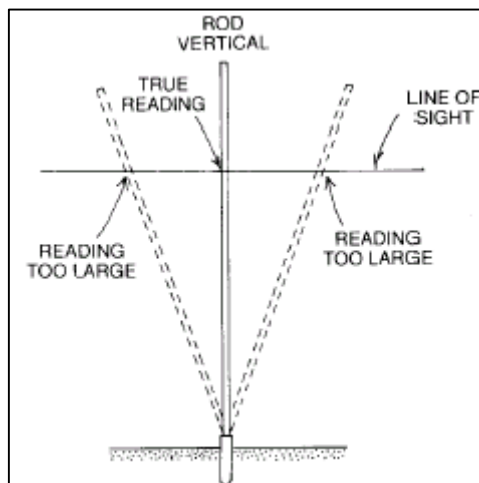

Figure 14 – Leaning the rod results in incorrect readings
- Note:** It is very important that the rod be held vertically (Figure 14).